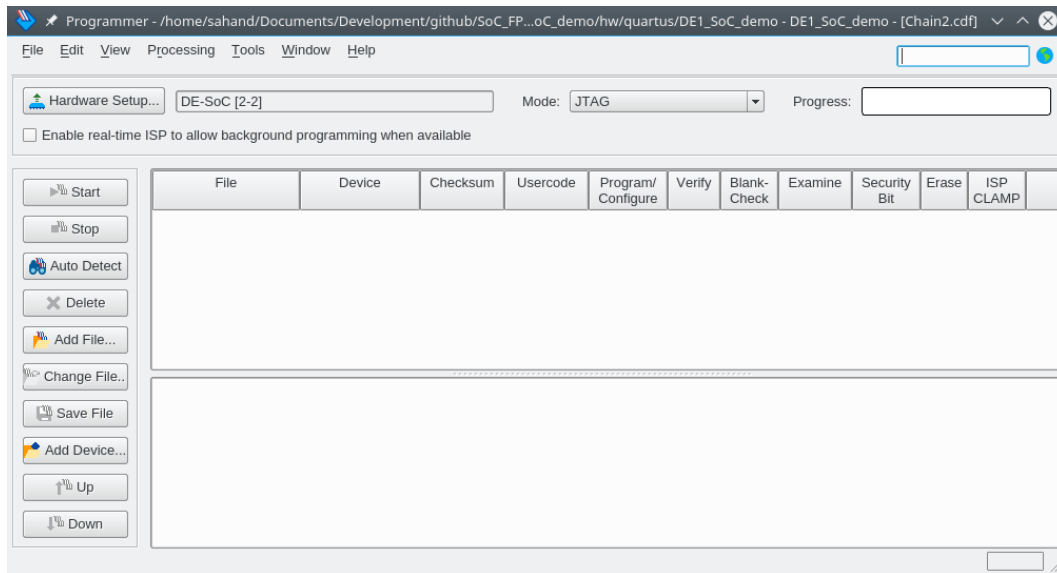
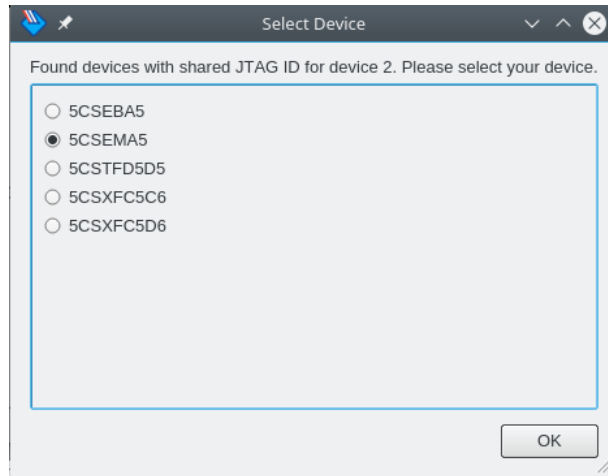

Figure 9-20. Quartus Prime Programmer
Figure 9-21. FPGA Selection
43. Choose the “Auto Detect” button on the left of Figure 9-20, then choose “5CSEMA5”, as shown in Figure 9-21.